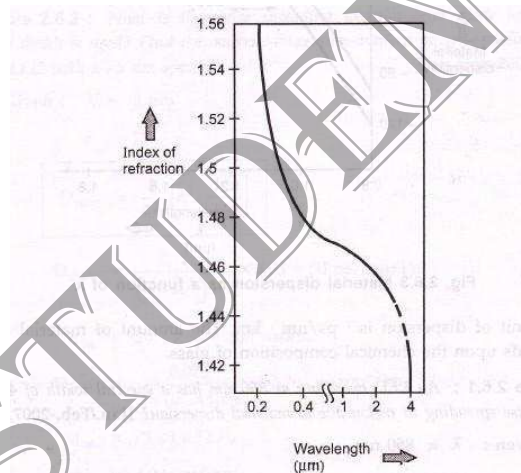

Fig. 2.6.2 Index of refraction as a function of wavelength
- x Material dispersion is also called as chromatic dispersion. Material dispersion exists due to change in index of refraction for different wavelengths. A light ray contains components of various wavelengths centered at wavelength  $\lambda_{10}$ . The time delay is different for different wavelength components. This results in time dispersion of pulse at the receiving end of fiber. Fig. 2.6.2 shows index of refraction as a function of optical wavelength.